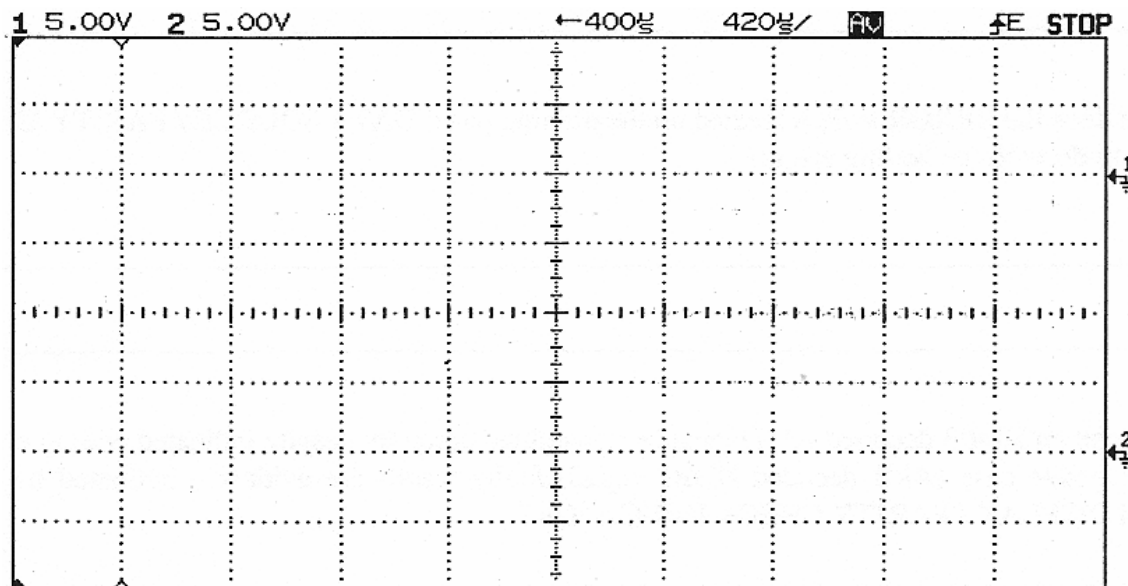

Figure 7-3w: above : Decoder input signal (AMI / NRZ)
- Now set the coder to AMI-NRZ and the decoder to HDB3 code. The bit pattern to be transmitted continues to be 00001111. Make a sketch of the oscillograph for bit pattern 00001111 in Figure 7-3w.